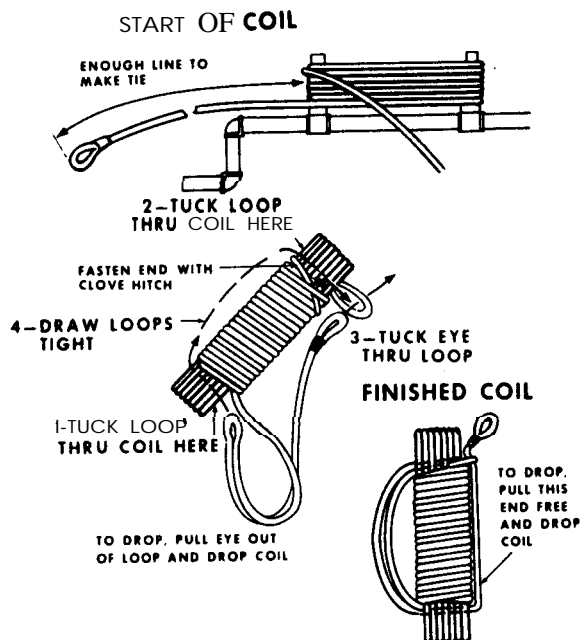

Figure 2-41. Coiling in handline.
a. *Coiling a Handline.* For coiling a handline, a frame containing two vertical posts about **14 inches (36 centimeters)** high and **25 inches (64 centimeters)** apart is set up (fig. 2-41). The rope is first wrapped several times horizontally around the upright posts and then wrapped around the horizontal wrappings to secure the rope around the posts. When the opposite end is reached, the horizontal pipe is pulled from the coil. The free end of the rope should be folded and slipped through the end of the coil. The free end will then be slipped through the opposite end of the coil and through the loop, thus pulling the loop tight. Loops should be made large enough for the coil to be loaded over the shoulder.